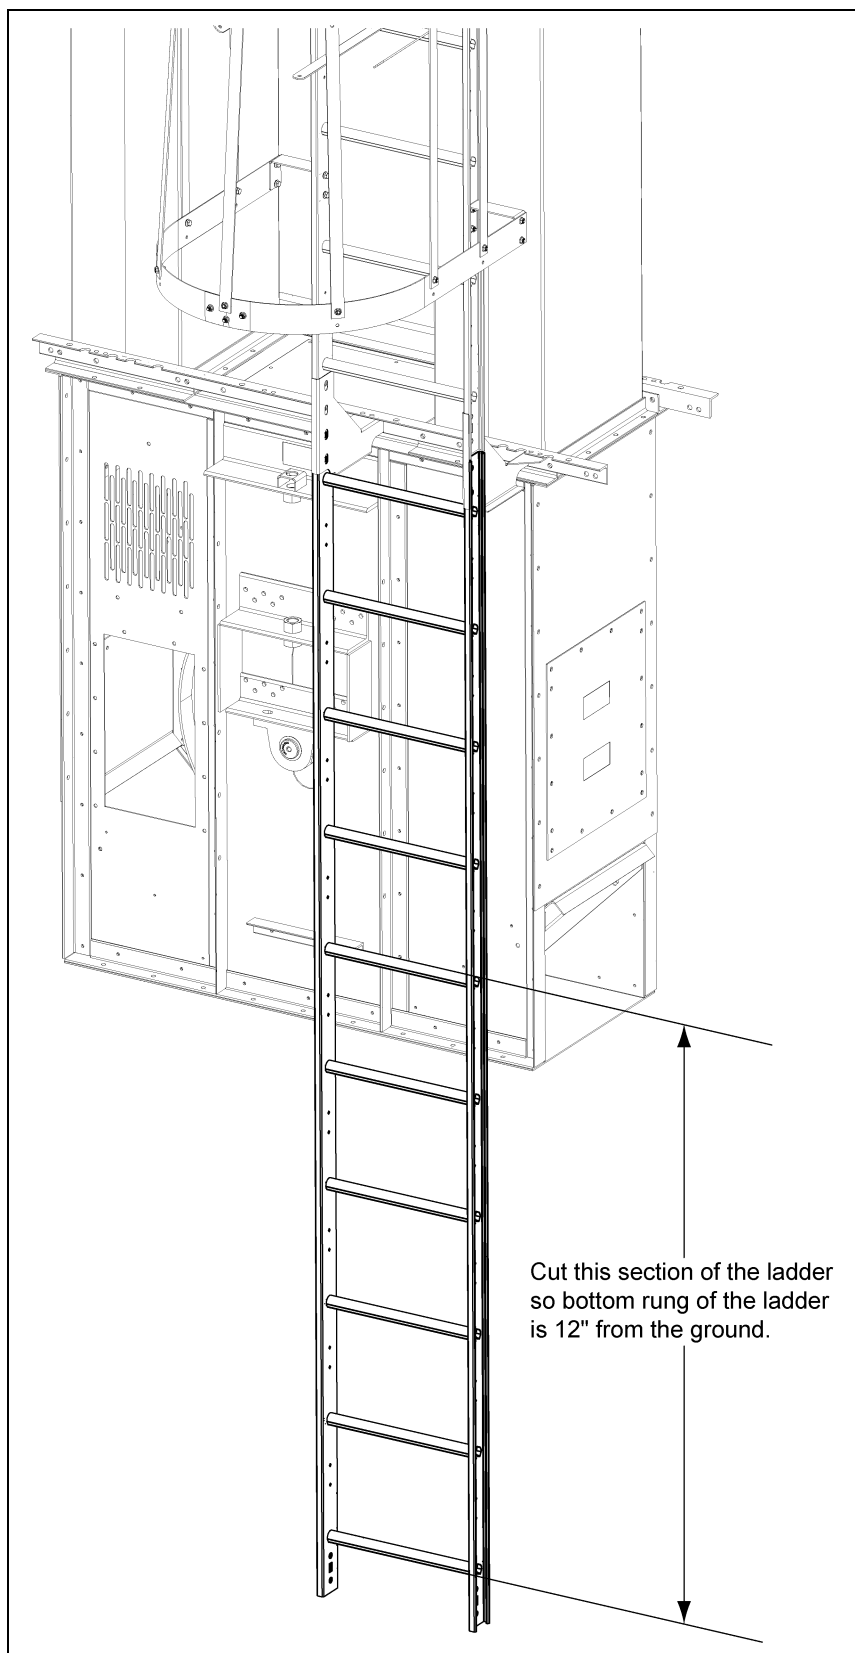

Figure 4R
1. Trim a 10' ladder section to sit so that the first ladder rung is 12" from the ground. (See Figure 4R.)